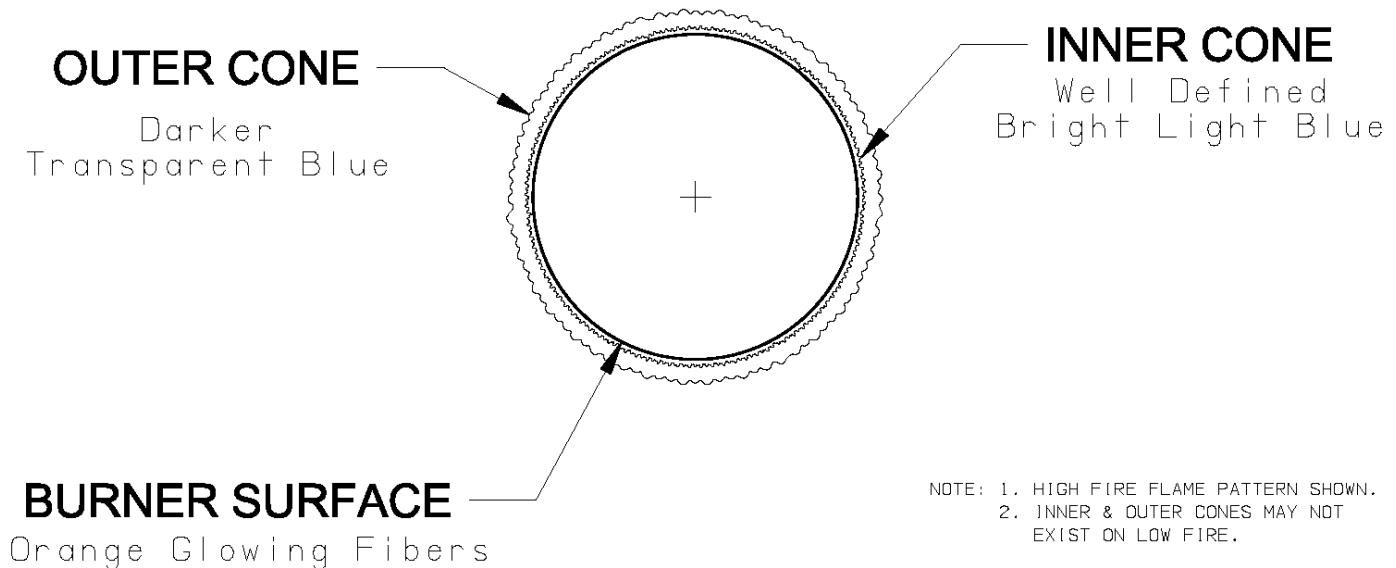

Figure 3: Burner Flame
- Inspect flame for true yellow tipping. Adjust thermostat to highest setting to turn on boiler and view flames through observation glass with front door removed. On high fire the flame should be stable and mostly blue. No true yellow tipping should be present, however intermittent flecks of yellow and orange in the flame caused by dust in air are normal. See Figure 3. If the burner flame looks satisfactory, adjust thermostat to normal setting and reinstall boiler front door.